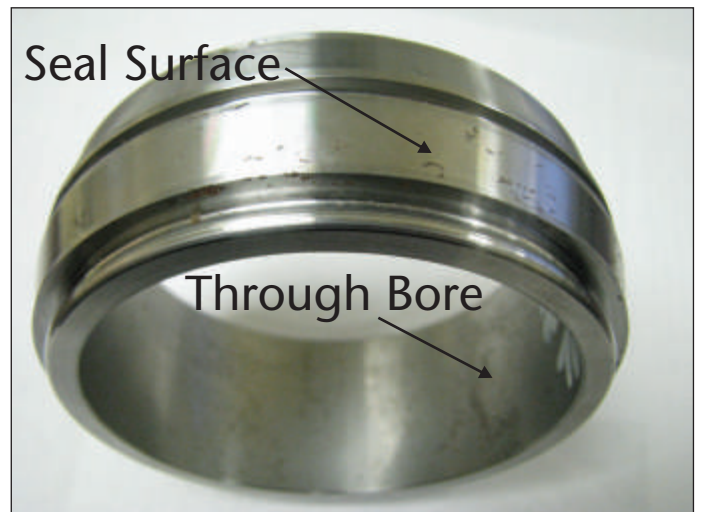

FIGURE 7 - Seal Ring
Seal rings are considered expendable items and will require periodic inspection. Focus attention on the seal surfaces and through-bore (FIGURE 7). Common reasons for replacement include gouges, deep scratches, and erosion damage. Described below are the recommended inspection procedures.
- Visually inspect all seal surfaces, including under the soft seal (FIGURE 7). If any erosion, impact damage, or gouges are observed, the seal ring must be discarded.